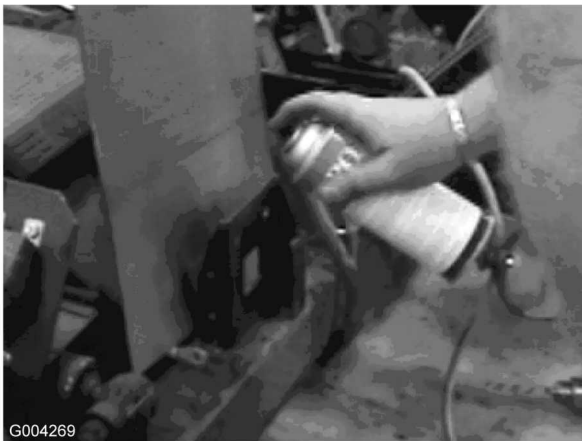

Figure 15
14. Paint all exposed metal surfaces with black touch-up spray paint (Figure 15). Toro Part No. 361-8 Black Touch-Up Spray Paint is available at your authorized Toro Service Distributor. Allow to dry.